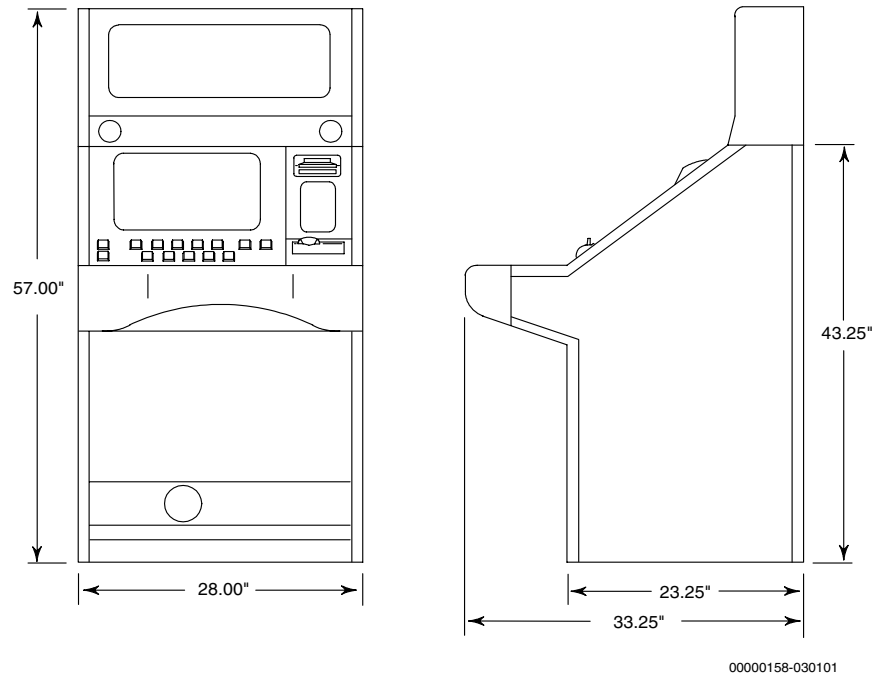

Figure 2-27. Cabinet Dimensions – Game King 19” Slant-Top with Square Top Box
- Cabinet Dimensions – Figures 2-27 and 2-28